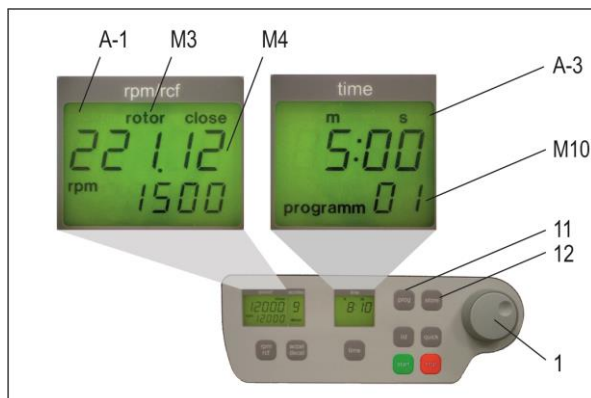

Figure 21
Put the desired rotor into the centrifuge. By pressing the key, "prog" (11), in the display "time" (A-3) appears the word "program", (see Figure 21). With the adjustable knob (1), choose the desired program number.
If a program number is already occupied, in the display "rpm/rcf" (A-1), the words "rotor" (M3) and "22x.xx" (M4) will appear, (see Figure 21). Free program numbers will appear as 0.